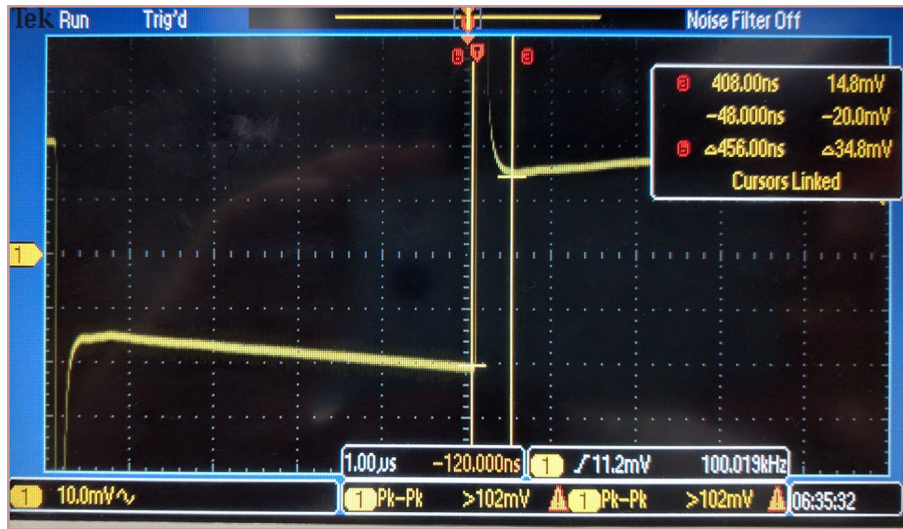

Figure 15. Measurements with cursors.
4. Use the cursors to measure the height of the square wave. The example in Fig. 15 measures 35 mV. The square wave diminished from 2V P-P to 35 mV P-P. The ESR can be calculated based on this using the equivalent circuit of the test set-up shown in Fig. 16. The capacitor behaves as a short due to the high frequency so the voltage develops across the ESR. The better the quality of the capacitor, the smaller the ESR, resulting in a smaller square-wave. This is why for some capacitors you will have to raise the output voltage in order to actually measure the voltage drop. (Hint: find the Thevenin equivalent of the function generator and 50 ohm terminator combination. This will simplify calculations. Refer to the previous DC circuits lab for more information)